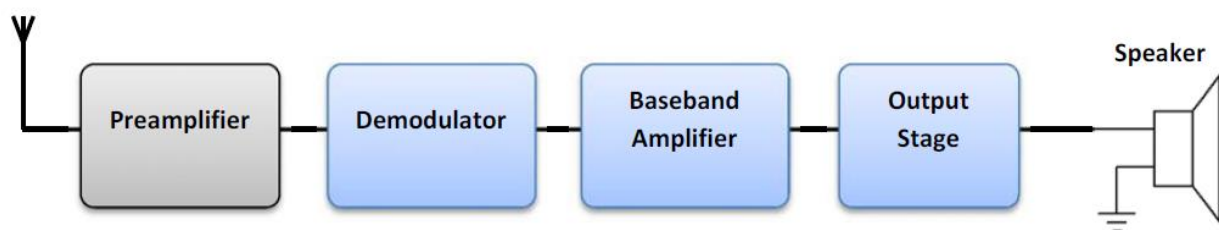

Figure 1 - System level diagram of the AM receiver
The signal information, also called the baseband signal, is usually a low-frequency signal which, in the case of audio systems, is comprised in the audio band ranging from 0 Hz to 20 kHz. As these signals cannot be transmitted efficiently (they would require very long antennas), they are usually transmitted on top of a high-frequency carrier signal, also known as the Radio Frequency (RF) carrier. The carrier frequency is a high-frequency signal which carries the baseband signal containing data. This process is known as signal modulation. There are many types of signal modulation, some of the simplest are amplitude modulation (AM) and frequency modulation (FM). This project will focus on the AM receiver shown in *figure 1*.